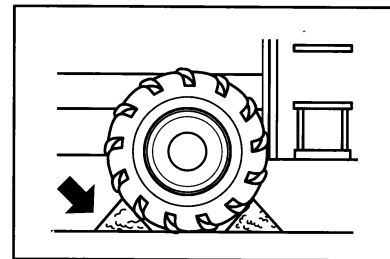

Figure 3-1
- When loading or unloading the machine to or from a carrier vehicle, you must be sure that the wheels of vehicles are securely positioned, not moving. And put a wedge under the slope plate. (Figure 3-1)